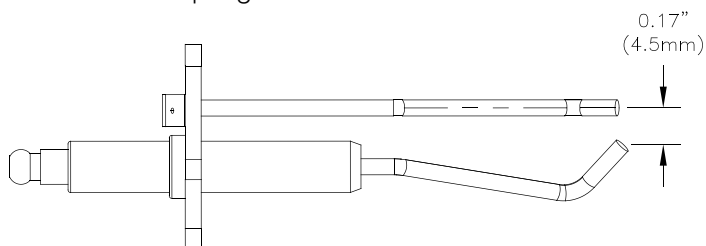

Figure 11-1: Igniter Electrode Gap
3. Remove the igniter assembly and flame sensor and inspect them for oxide deposits. Clean the oxide deposits from the igniter electrodes and flame sensor rod with steel wool. Do not use sandpaper for the cleaning. Inspect the ceramic insulators for cracks and replace the igniter assembly and/or flame sensor if necessary. Check the igniter electrode spacing gap. Refer to Figure 11-1 "Igniter Electrode Gap" for details.